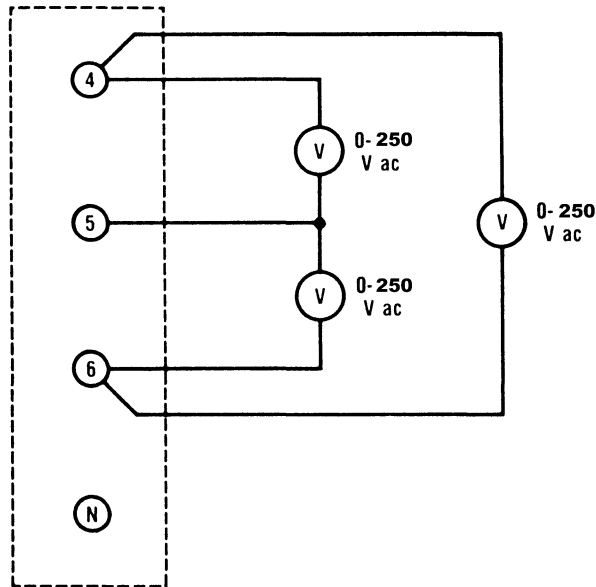

Figure 45-1.
- 1. a. Using your Power Supply and AC Voltmeter connect the circuit shown in Figure 45-1.